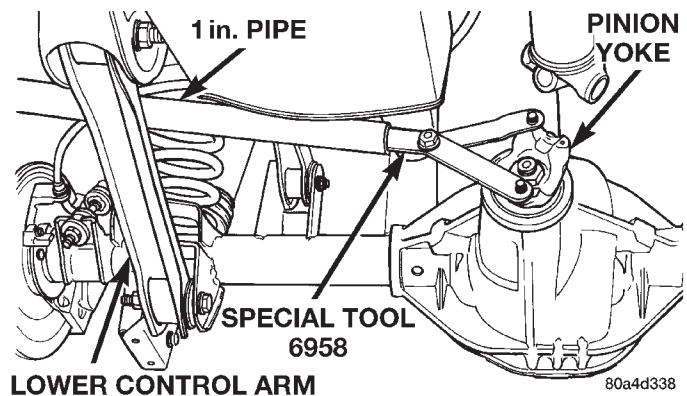

Fig. 14 Pinion Yoke Holder
(1) Raise and support the vehicle.
(2) Remove wheel and tire assemblies.
(3) Remove rear brake rotors and calipers. Refer to Group 5, Brakes, for proper procedures.
(4) Mark the propeller shaft and pinion yoke for installation reference.
(5) Remove the propeller shaft from the yoke.
(6) Rotate the pinion gear three or four times.
(7) Measure the amount of torque necessary to rotate the pinion gear with a (in. lbs.) dial-type torque wrench. Record the torque reading for installation reference.
(8) Using a short piece of pipe and Holder 6958 to hold the pinion yoke, remove the pinion nut and washer (Fig. 14).
(9) Using Holder 6958 to hold yoke and a short length of 1 in. pipe, remove the pinion yoke nut and washer (Fig. 14).